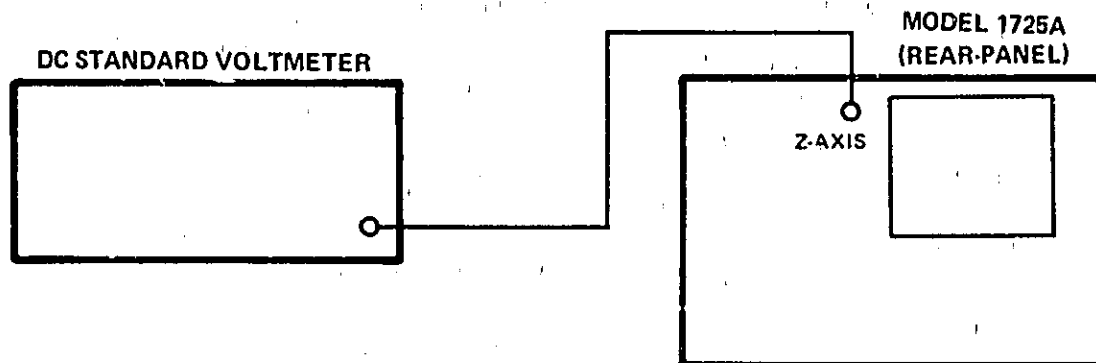

Figure 5-3. Z-axis Blanking Test Setup
- c. Connect equipment as shown in figure 5-3.